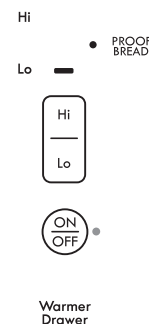

Figure 43: Bread Proof indicator light
4. Press **Lo** again to activate Proof Bread feature. The Proof Bread indicator light will glow when the Proof Bread feature is active (Figure 43).